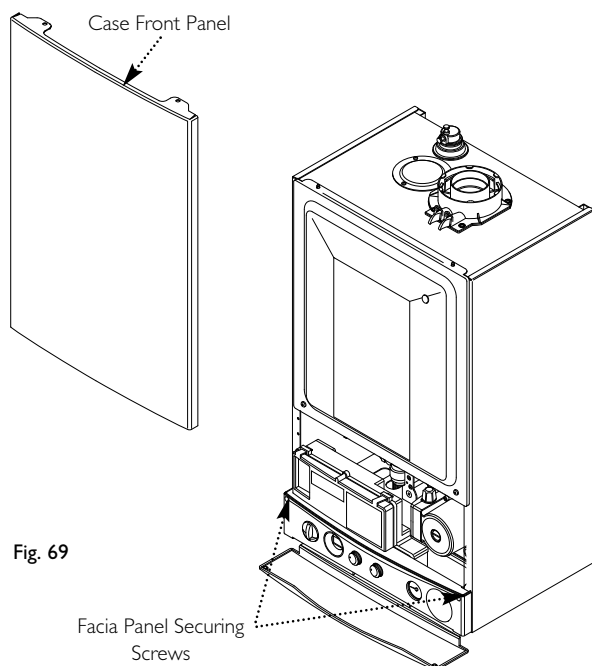

Fig. 69
3. Slacken the screws securing the fascia panel. Lift the outcase panel so that its securing tabs are clear of the fascia. Remove the panel, allowing the fascia to hinge down (Fig. 69).